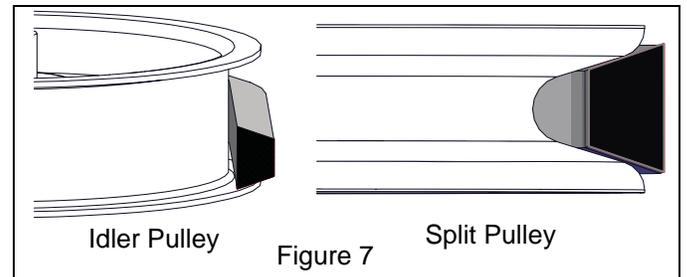

Figure 7
3. Place blower belt tensioner in operating position. **IMPORTANT:** Ensure flat side of V-belt contacts idler pulley and the V-side of V-belt contacts split pulley as shown in Figure 7.